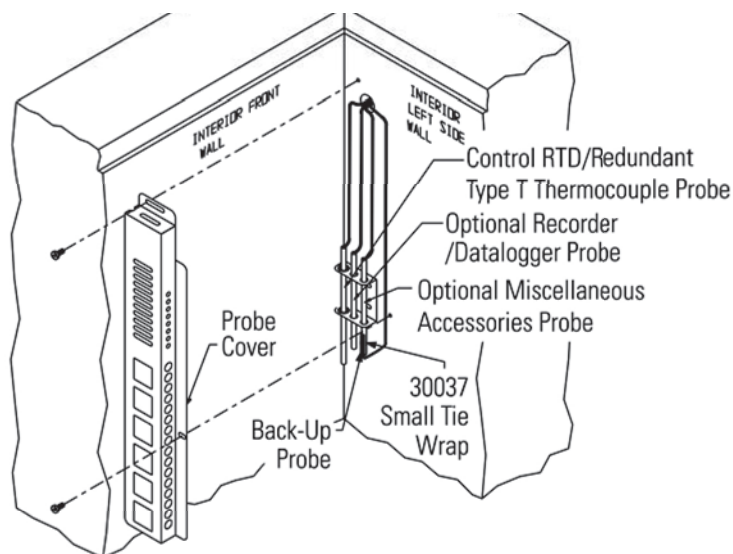

Figure 6-5. Probe location
4. Open the freezer lid and locate the probe cover on the upper front left wall. Remove the two Phillips head screws securing the probe cover (see Figure 6-5).
5. Route the BUS probe through the probe port, approximately 12". Secure the back-up probe to the temperature probe using a small tie wrap (Figure 6-5).
7. Reinstall the probe cover (Figure 6-5).